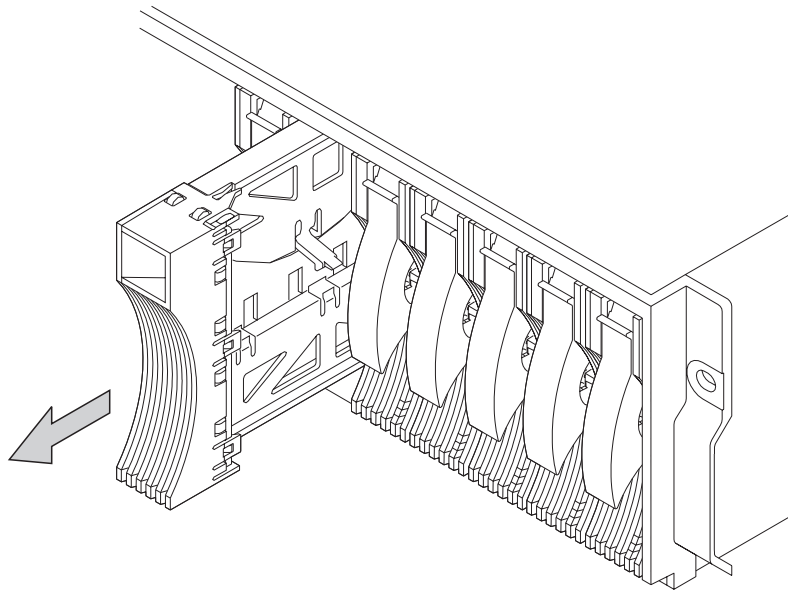

Figure 7. Removing a Dummy Disk Drive Module
9. You might also want to remove the dummy disk drive modules. A dummy disk drive module has a simple handle. There is no latch to be pulled upward. Refer to Figure 7.